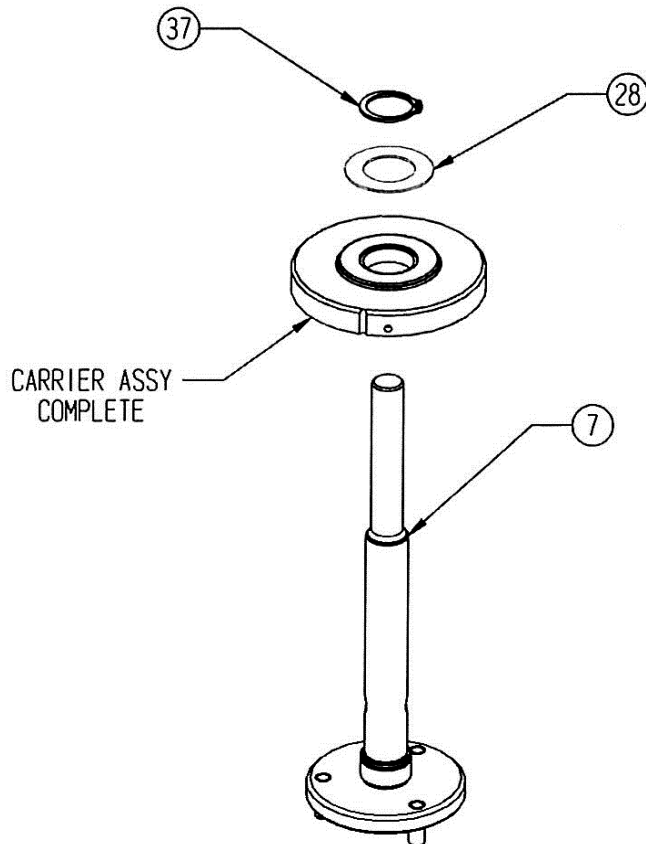

Fig 7: Shaft Assembly
(see figure 7)
1) Output Shaft: Install Intermediate Carrier Assy complete, new Thrust Washer (#28), and new Snap Ring (#37) on shaft (#7). (see figure 7)